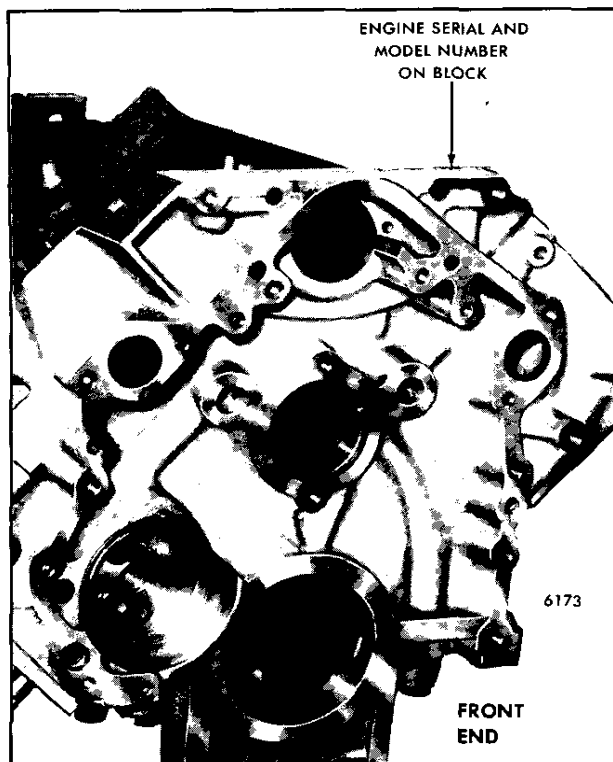

Fig. 10 - Location of Engine Serial and Model Number on Block
2. If a new service replacement block is used, stamp the engine serial number on the block in the same place as the identification label is now located (Fig. 10). Also, stamp the position numbers on the main bearing caps and the position of the No. 1 bearing on the oil pan mounting flange of the block.